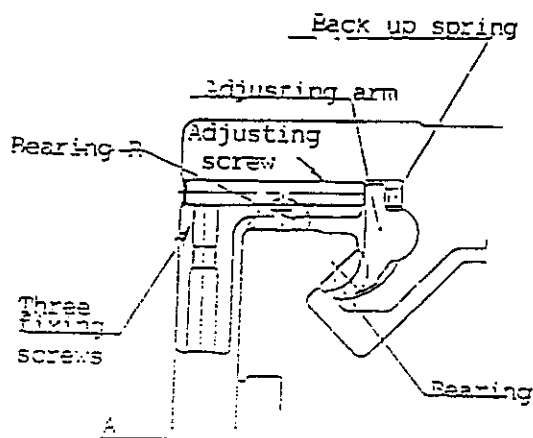

Fig. 2
- 2) In case of  $\pm 0.12\text{mm}$  or more of yawing of A dimension in figure 2)
In case of large yawing of the slide table (Yawing of A dimension of figure 2 is over about  $\pm 0.12\text{mm}$ ) after adjusting the bearing, consult with us.
- Refer to figure 2. -)